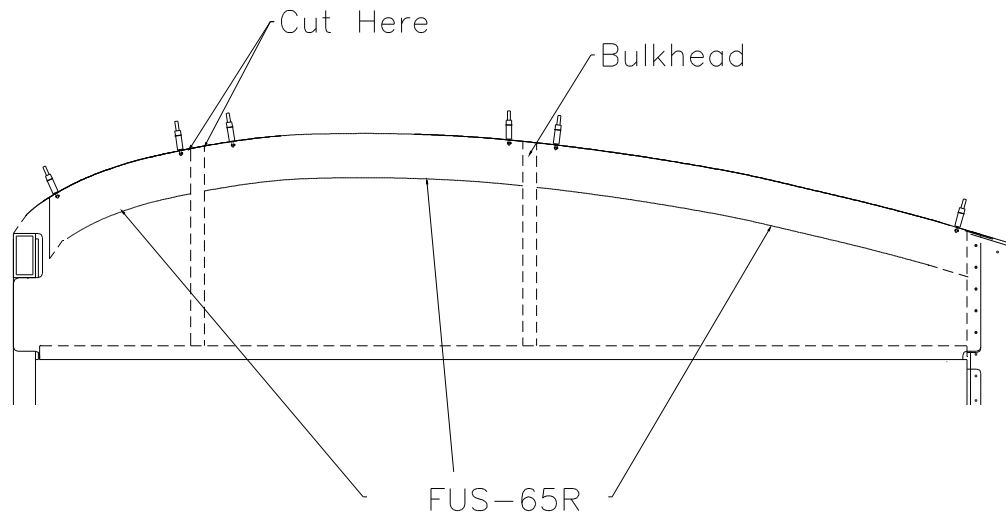

Figure 20.12.1
1) Cut the flap rib (FUS-65R) to fit between front three roof bulkheads. Figure 20.12.1.